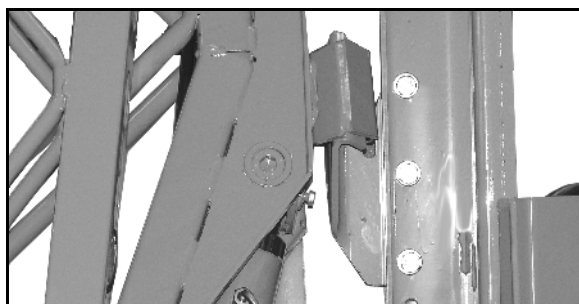

Fig. 10
- Transport locking mechanism (Fig. 10) to prevent the Super-S boom from folding out unintentionally